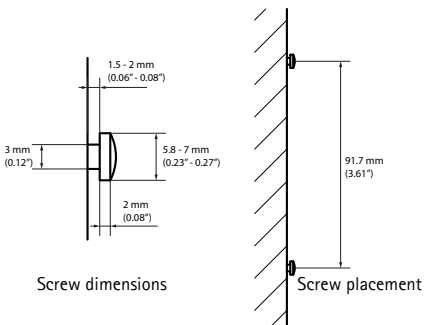

Figure 1
1. Mount two screws (not included) in the wall or shelf as shown in Figure 1.